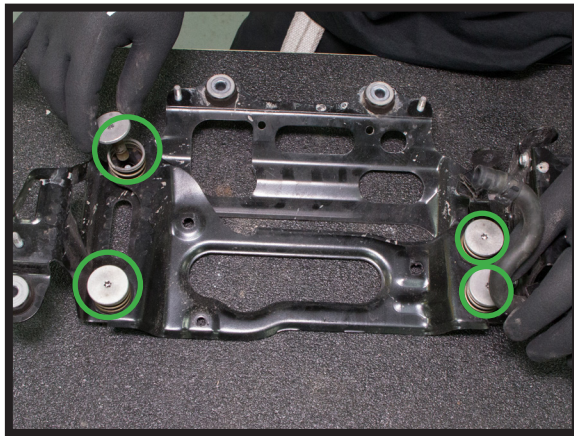

FIGURE 14
1. REMOVE THE FOUR SPRING WASHERS AND SET ASIDE. REMOVE AND DISCARD THE SPRINGS. INSTALL THE NEW SPRINGS AND REINSTALL THE SPRING WASHERS. (FIGURES 14, 15, 16)